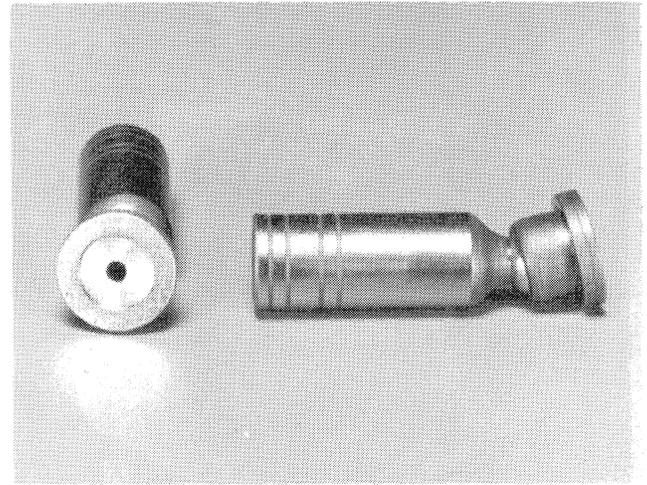

FIGURE 4-8
4. Piston and Shoe Assemblies (Figure 4-8)